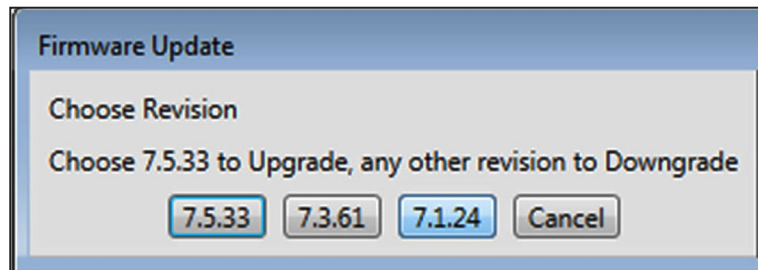

Figure 32. The Firmware Update Choose Revision dialog box for selecting the firmware version.
STEP 14. When the Firmware Update Choose Revision dialog box appears, select the desired firmware version. See Figure 32.